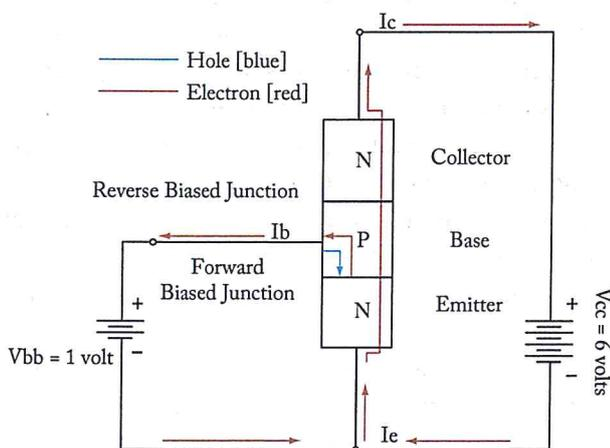

Figure 1-67. NPN Junction.
**Figure 1-67** illustrates the basic interaction of the NPN junction. There are two batteries in the circuit used to bias the NPN transistor.  $V_{bb}$  is considered the base voltage supply, rated in this illustration at 1 volt, and the battery voltage  $V_{cc}$ , rated at 6 volts, is called the collector voltage supply. Current within the external circuit is simply the movement of free electrons originating at the negative terminal of the battery and flowing to the N-material. This is shown as emitter-current ( $I_e$ ).